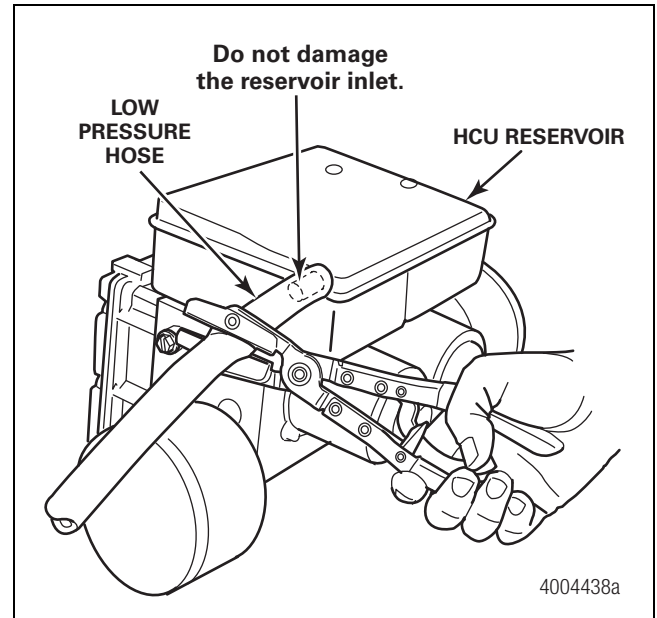

Figure 4.2
7. Attach hose clamp pliers to the low pressure hose at the HCU reservoir inlet. Clamp the rubber hose at least 3 inches (76 mm) away from the entrance to the HCU reservoir. Use care to avoid damage to the plastic reservoir nipple inside the hose. Figure 4.2.